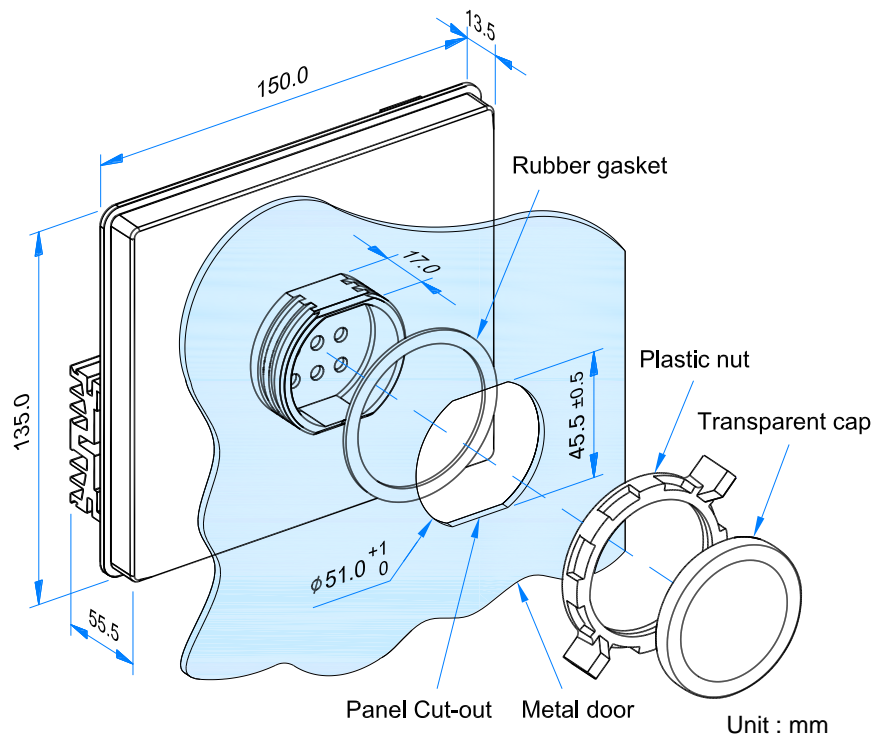

Figure 1 Outline Drawing
1. AVR can be mounted directly on the engine, genset, switchgear, control panel, or any position that will not affect operation. For dimension reference, please see Figure 1.